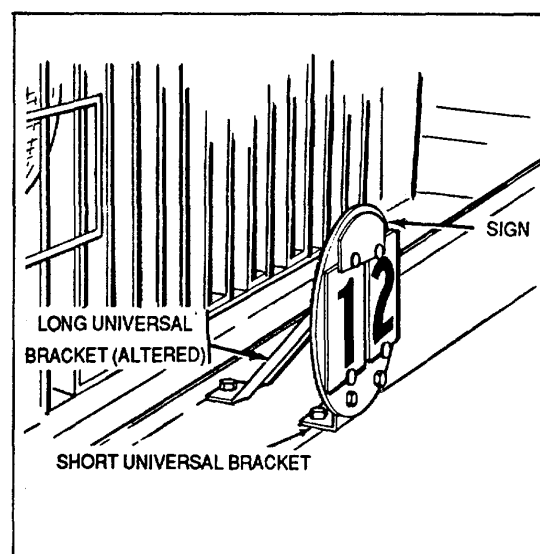
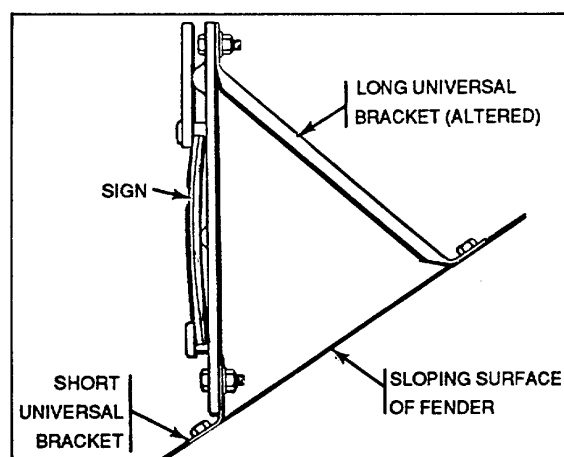

Figure 25. Sign installed on splash shield.
Figure 26. Sign installed on sloping fender (slope angle exceeds 30° from vertical).
When installing the sign on a horizontal surface, position the short leg of the bracket so that it faces rearward, Figure 25. When installing the sign on a sloping surface, position the short leg of bracket so that it faces forward, Figure 26.
8. Drill an 11/32-inch hole in fender or splash shield to correspond with the hole in the altered bracket and secure the bracket with a bolt (3/4 inch long), washer, and nut. Figure 25 shows sign installed on splash shield and Figure 26 shows sign installed on sloping fender.